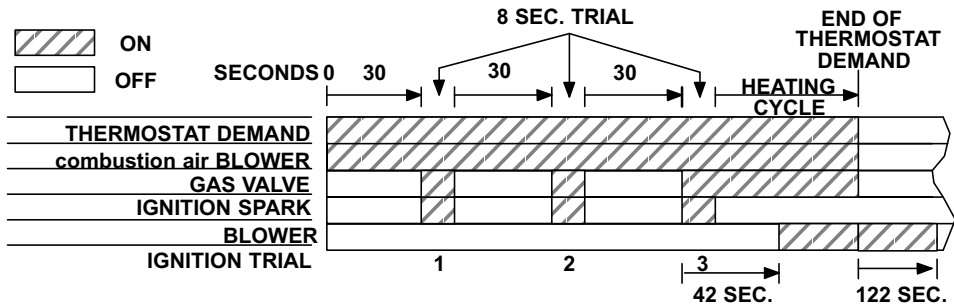

FIGURE 11
- a- The ignition control provides three main functions: gas valve control, ignition and flame sensing. It is powered only after the combustion air prove switch has closed and as long as other safety switch circuits are closed. The ignition attempt sequence provides three trials for ignition before locking out for 5 minutes. The blower control (K25) is energized simultaneously with the gas valve, so the blower will energize 45 seconds after flame has successfully been established. The unit will usually ignite on the first attempt. See figure 11 for a normal ignition sequence with nominal timings for simplicity.
- b- Proper gas/air mixture is required for ignition on the first attempt. If there is any deviation, within tolerance of the unit, a second or third trial may be necessary for ignition. The control will lock out the heating system if ignition is not obtained within three trials and the (indoor) blower will not start. Reset after lockout requires only breaking and re-making thermostat demand. See figure 11 for the ignition attempt sequence with retries (nominal timings given for simplicity). Loss of flame during a heating cycle is indicated by an absence of flame signal. If this happens, the control will immediately restart the ignition sequence and then lock out if ignition is not gained within three trials.
- c- The specific timings for the Johnson ignition control are shown in figure 11.